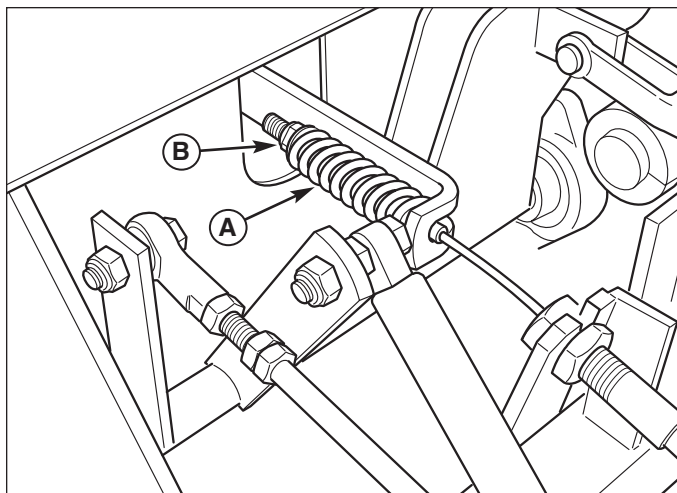

Figure 24. Parking Brake Adjustment
3. Locate the brake spring (A, Figure 24).
5. If the spring is not within this range, release the parking brake and turn the adjustment nut (B) to compress or release the spring.